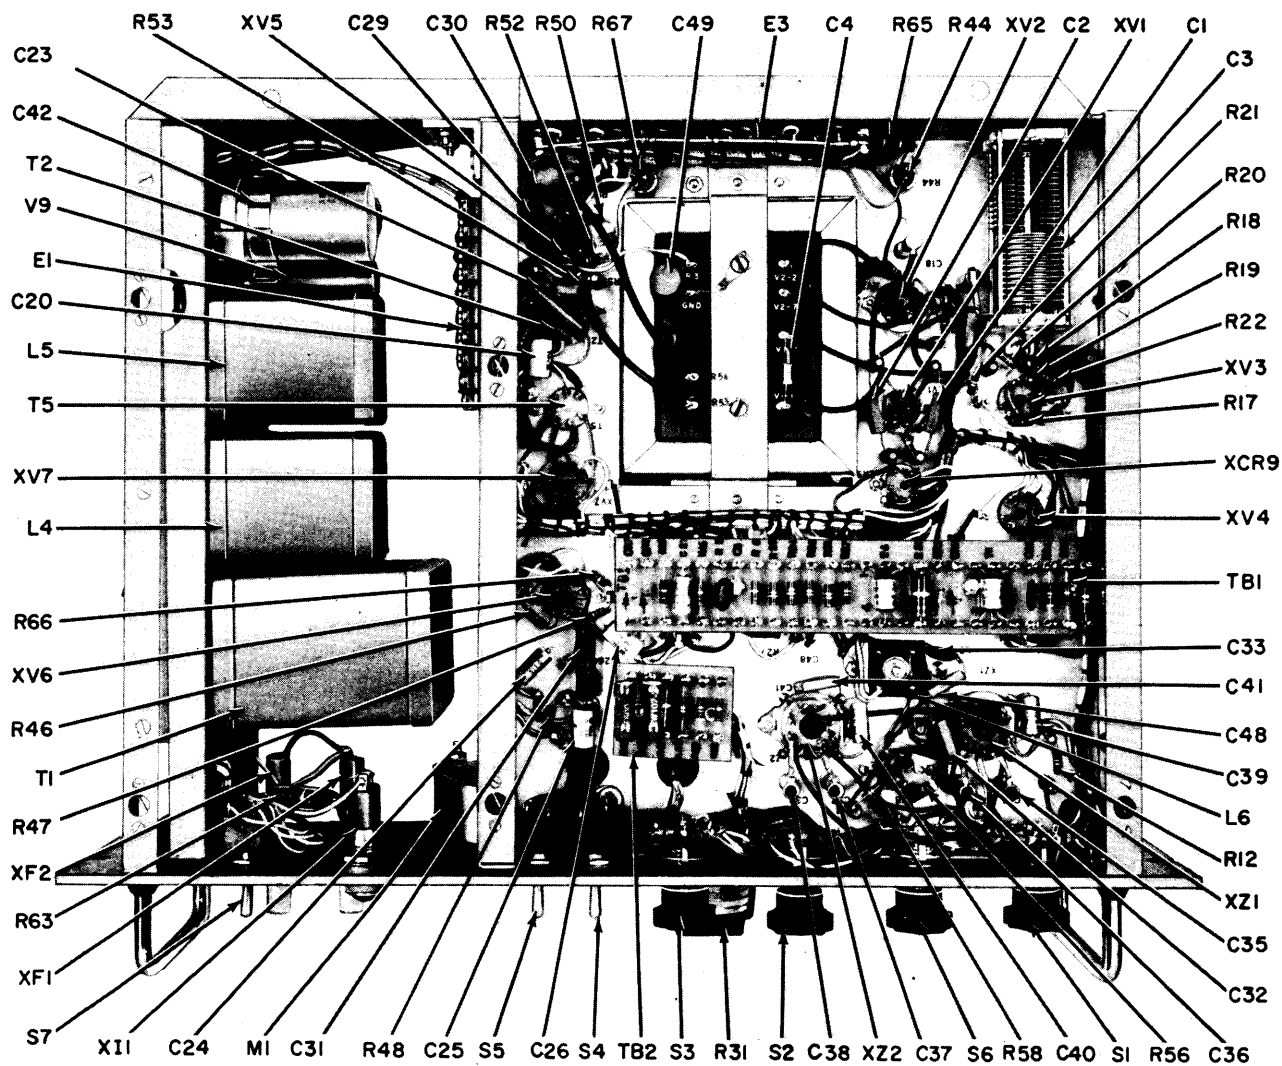

Figure 5-4. Bottom View of Chassis, Parts Location
- (1) Disconnect leads to oven terminal board TB2 (see figure 5-4).
- (2) Remove two screws securing terminal board and lift terminal board out of chassis.